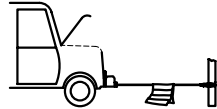

figure 2
6. Lay a blanket or a big towel near the hook on the wire rope when pulling heavy load, so that it can prevent the rebound of the wire rope when taken off the hook. Meanwhile, raise the lid of the vehicle for protection(see figure 2).